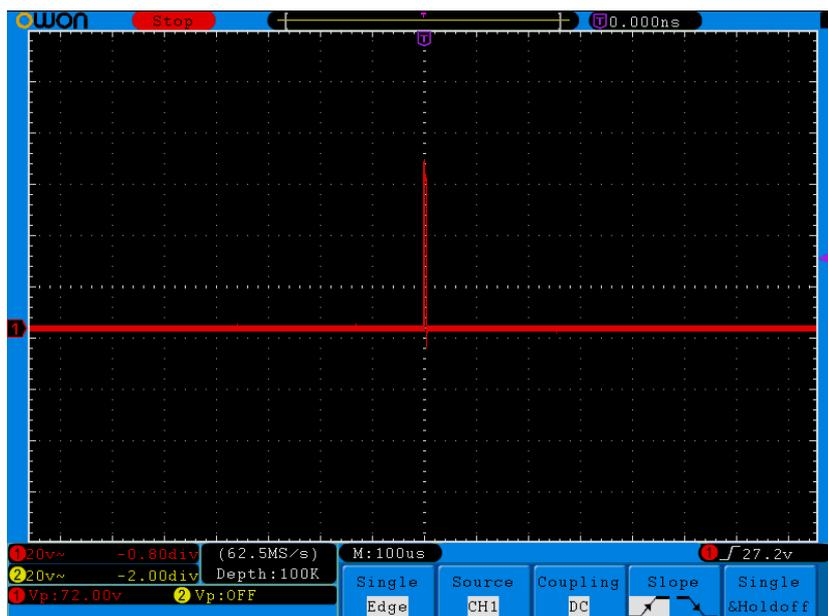

Fig.6-3 Capturing a Single Signal
- (5) Press the **F2** button to choose **Peak detect**.
- (6) Press the **Trigger Menu** button to display the Trigger menu.
- (7) Press the **H1** button to display the Trigger Type menu.
- (8) Turn the **G** knob to choose **Edge** as the mode.
- (9) Press the **H2** button to display the **Source** menu.
- (10) Press the **F1** button to choose **CH1** as the source.
- (11) Press the **H3** button to display the Coupling menu; press the F2 button to choose **DC** as the Coupling.
- (12) Press the **H4** button to choose  (rising) as the Slope.
- (13) Rotate the **TRIG LEVEL** knob and adjust the trigger level to the roughly 50% of the signal to be measured.
- (14) Check the Trigger State Indicator on the top of the screen, if it is not Ready, push down the **Run/Stop** button and start acquiring, wait for trigger to happen. If a signal reaches to the set trigger level, one sampling will be made and then displayed in the screen. By using this approach, a random pulse can be captured easily. For instance, if we want to find a burst burr of high amplitude, set the trigger level to a slightly higher value of the average signal level, press the **Run/Stop** button and wait a trigger. Once there is a burr occurring, the instrument will trigger automatically and record the waveform during the period around the trigger time. By turning the **HORIZONTAL POSITION** knob in the horizontal control area in the panel, you can change the horizontal triggering position to obtain the negative delay, making an easy observation of the waveform before the burr occurs (see **Fig.6-3**).